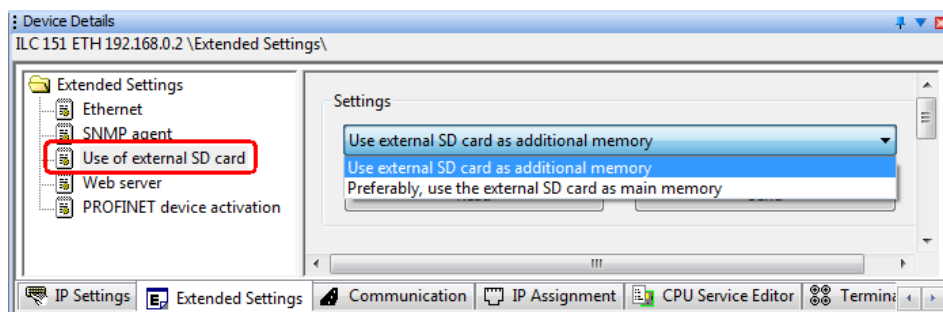

Figure 3-20 Setting the external SD card as additional memory
Figure 3-20 shows the settings in PC Worx required to use the SD card as the additional memory.
- Click “Send” (hidden by the drop-down list in Figure 3-20), to send the setting to the Inline controller.